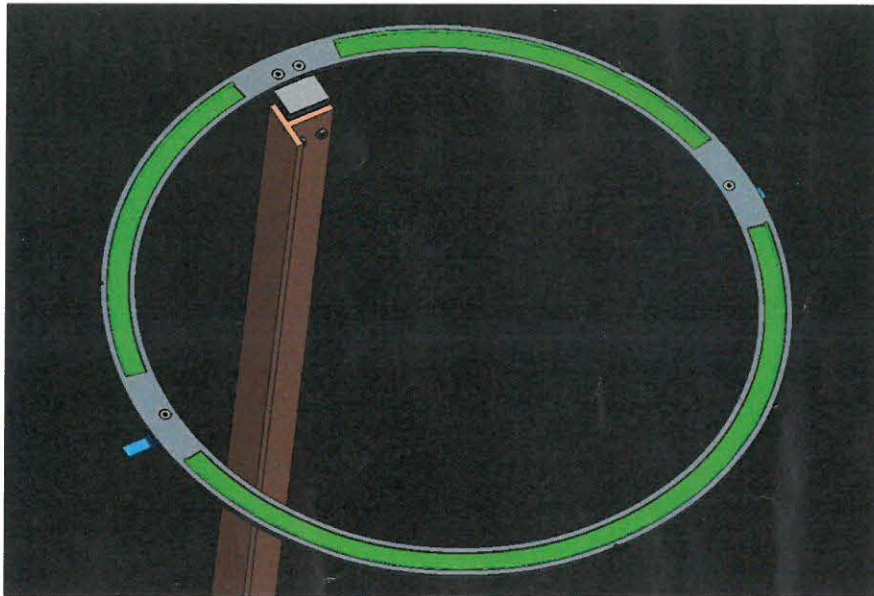

Figure 2-1 Lower mesh gasket layout
- a. Cut and lay metal mesh gasket in grooves with round edge out. See Fig 2-1.
g. Install the Teflon capacitance probe capture block on the ring ear. See Fig 2-1.